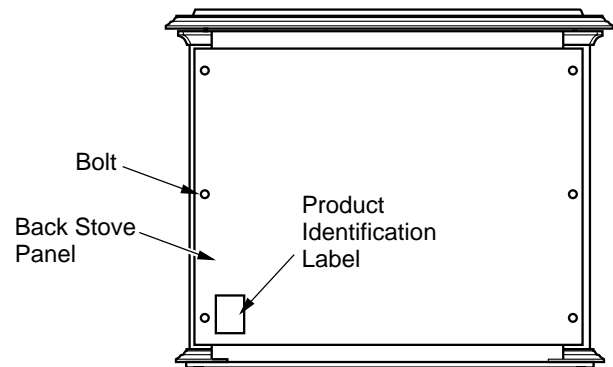

Figure 6 - Removing Back Panel
- Locate the product identification label on the back panel (see Figure 6) and record the model number and 7 digit serial number in the space provided in the back of this owner's manual. Retain this operation and installation manual for future reference and warranty.
- Remove the six (6) bolts on the back stove panel with an adjustable wrench or a 10 mm socket. Discard the back panel and retain the bolts and washers to attach the rear cover provided with the burner system.